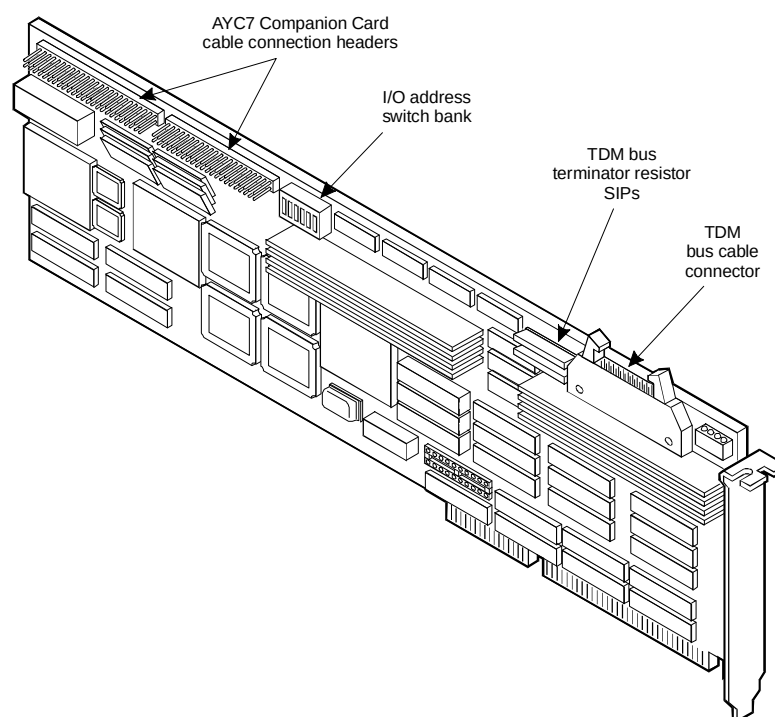

Figure D-61. Signal Processor Circuit Card
There are two jumpers and one set of switches to set on the AYC2B Signal Processor (SP) circuit card. The AYC2C has only a switch to set. Figure D-61 shows the location and settings for the jumpers and the location of switch. Figure D-62 shows the correct switch settings for SP-0 through SP-7.